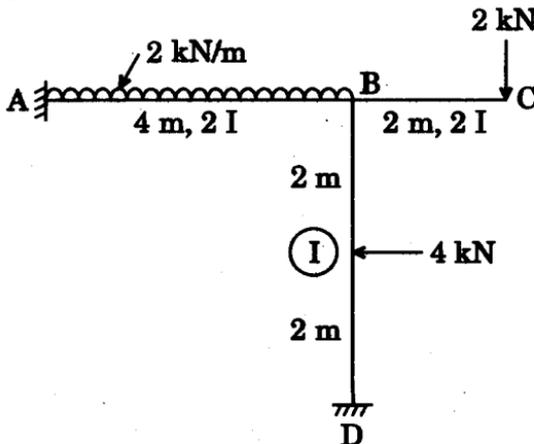

Figure 2
3. Analyse the rigid frame as shown in Figure 2 by slope deflection method.